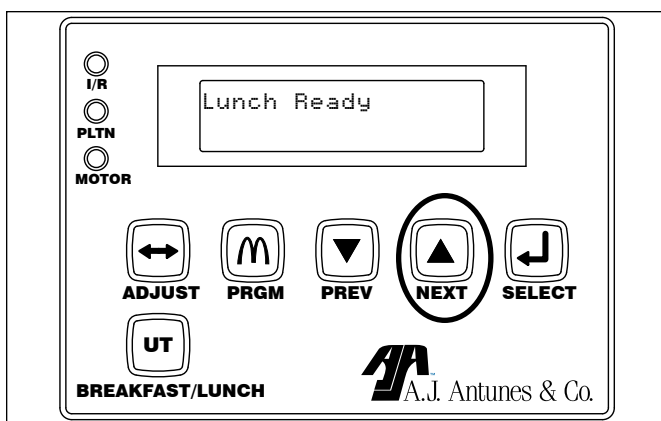

Figure 5. Purging Products: Front of Unit
With the unit in any READY or WAIT mode, open the front Cover. Press and hold the **NEXT** arrow button until the product is purged from the unit. See Figure 5.
8. Verify that the Bun Thickness Compression Control knob is set to 3 (Figure 5).